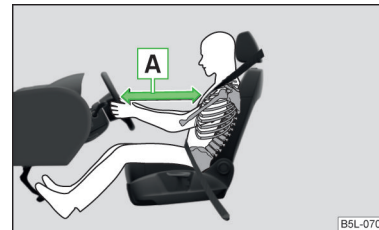

Fig. 9
- For the driver and front passenger, it is important to maintain a distance of at least 25 cm from the steering wheel or dashboard **A** » Fig. 9. Not keeping to this minimum distance will mean that the airbag system will not be able to properly protect you – risk of death! The front seats and the head restraints must always also be correctly adjusted to match the body size of the occupant.